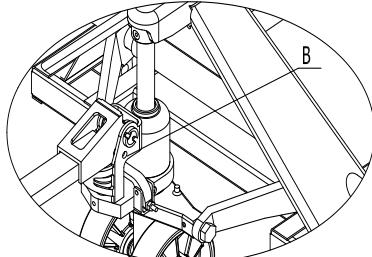

Fig. 3
3.6 Refer to Fig.3, raise handle 8 to a horizontal position, pull out pin B and keep it appropriately to be used for Handle replacement next time. The assembling is completed.